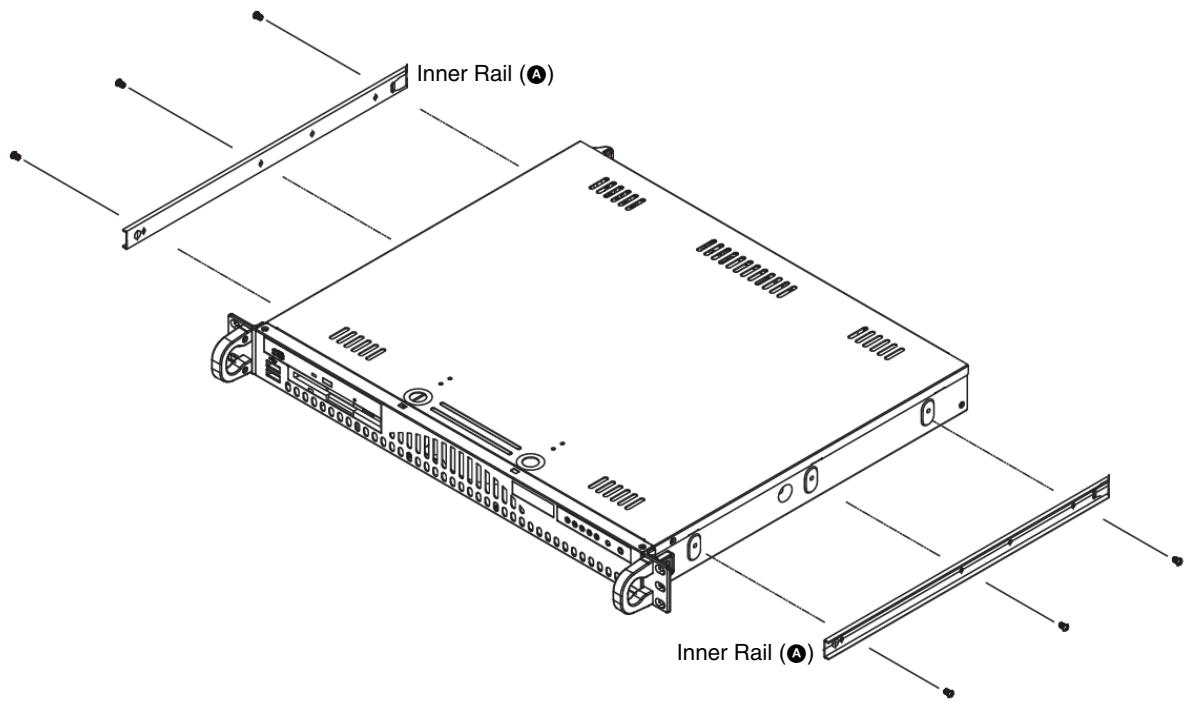

Figure 192. Installing the Rails onto the Controller Frame
2. Align each inner rail (A) to the screw holes located on the left and right side of the controller. Secure the rails to the sides of the controller frame (see figure 192).